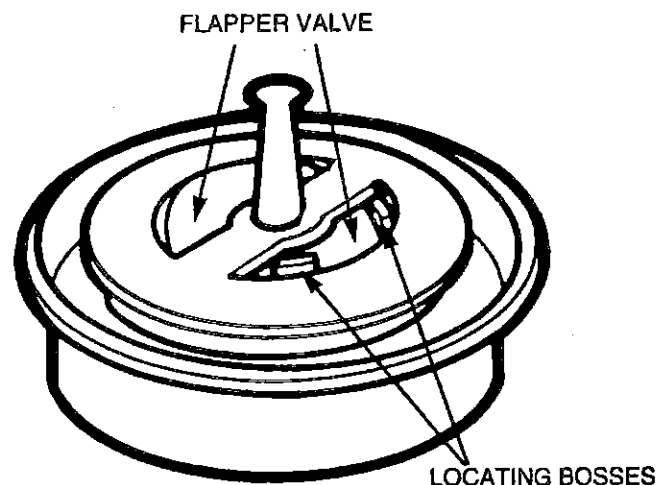

Figure 3
6. Remove the fitting and inspect the filter. Replace the filter if it is dirty. Check the exhalation valve assembly to be sure the flapper valve is not twisted and the locating bosses are properly positioned (See Figure 3).